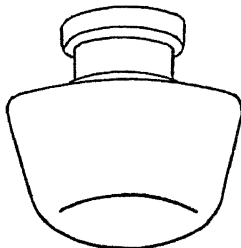

Fig. 12
*Kitchen.*—A glass enclosed diffusing globe at least 10 to 12 inches in diameter (Fig. 12), with a 100- to 150-watt bulb in the center of the ceiling, spreads the light and is sufficient for general work in the average sized kitchen. Two such units, or a larger one, may be used for general lighting in a larger kitchen.
*Cellar.*— It is desirable to locate a lamp so that it will illuminate the stairs and neighboring area. If the basement is used only for general activities for short periods of time, a bulb, or a bulb in a shallow reflector, is satisfactory. An enclosing glass unit similar to the kitchen unit (see Fig. 12) is desirable if the ceiling height permits. It is convenient to control the light by a switch at the head of the stairs. Additional pull chain sockets equipped with adequate sized bulbs are essential at fruit storage spaces or in other rooms. It is convenient to control one lamp by a wall switch at the entrance to each room. An additional lamp in the room may be controlled by a pull switch.